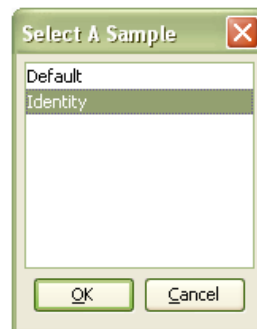

Figure 102 - Select a sample display
30. In the Select A Sample dialog box, click **Identity** (Figure 102).